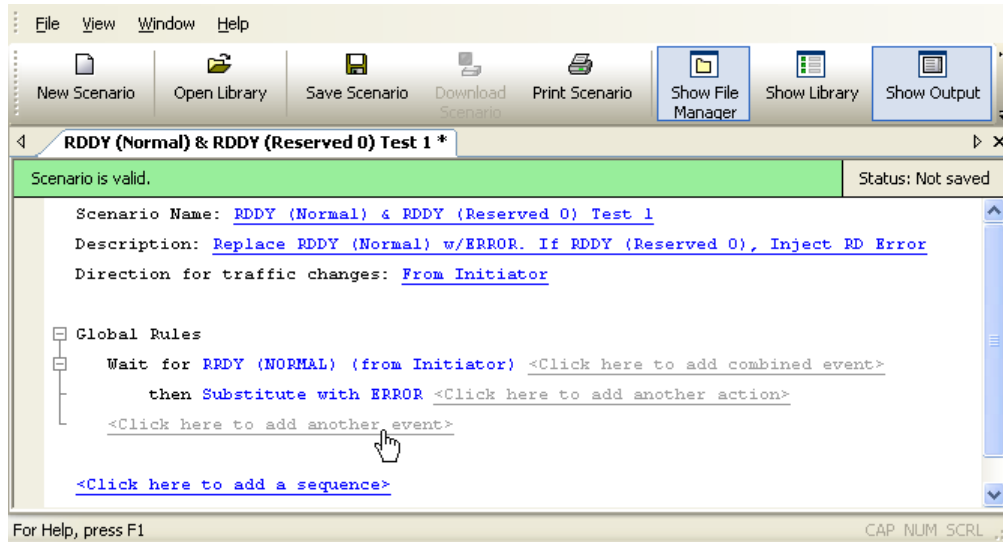

Figure 5.21 Example 4: Entering Second Event
Step 3 In the Global Rules area, click on the prompt to **add the next event** (keep in mind this is not a combined event) (Figure 5.21).